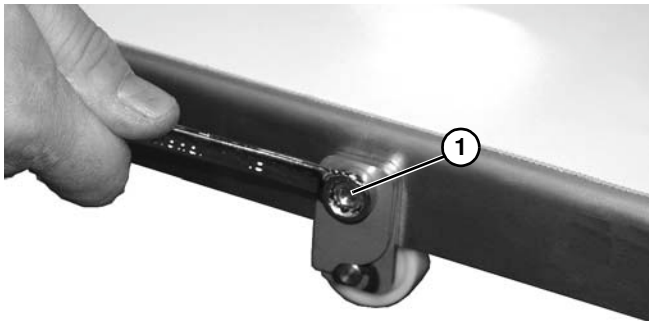

Figure 75
1. Loosen nut (Figure 75, item 1).